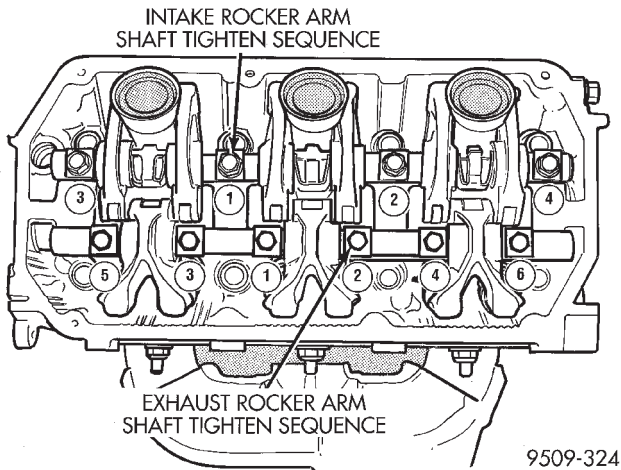

Fig. 48 Rocker Arm Shaft Tightening Sequence
(2) Tighten bolts to 31 N·m (276 in. lbs.) in sequence shown in (Fig. 48).
(3) Remove auto lash adjuster retainers Special Tool MD-998443 from rocker arms.